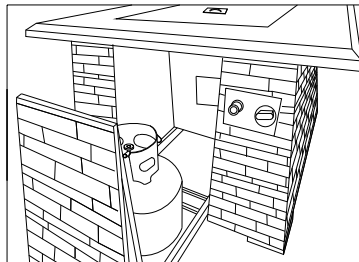

Fig 5
- 2- Put the tank into the tank rack. See Fig 5